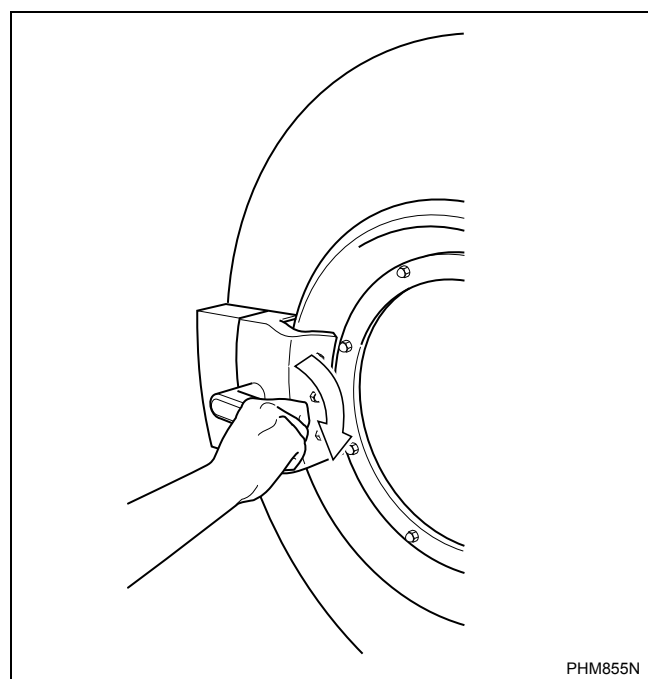

Figure 34
2. Turn the door handle clockwise and swing the door left to open it. Refer to *Figure 34*.